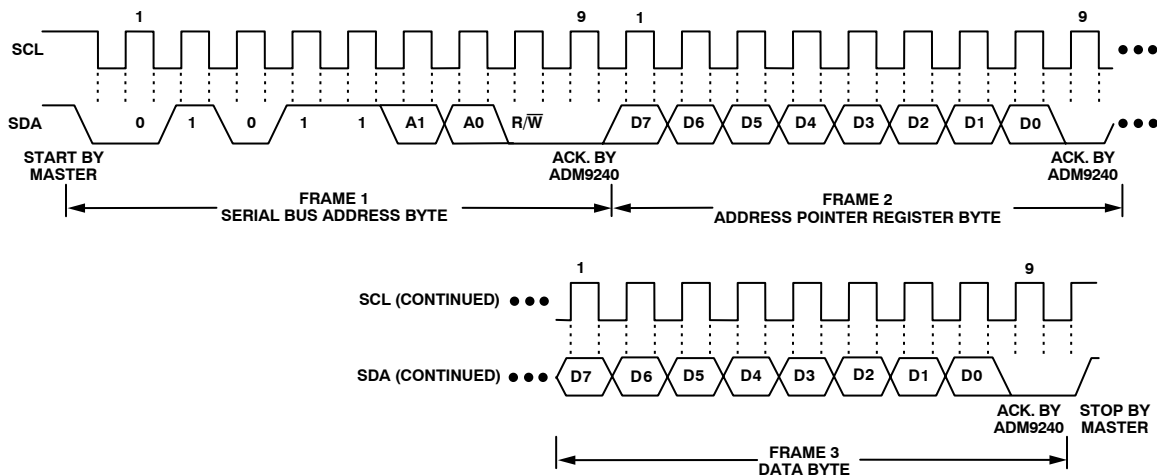

Figure 2a. Writing a Register Address to the Address Pointer Register, then Writing Data to the Selected Register
This is illustrated in Figure 2a. The device address is sent over the bus followed by R/\overline{W} set to 0. This is followed by two data bytes. The first data byte is the address of the internal data register to be written to, which is stored in the Address Pointer Register. The second data byte is the data to be written to the internal data register.
2. In Figures 2a to 2c, the serial bus address is shown as the default value 01011 (A1)(A0), where A1 and A0 are hardwired to either Logic 0 or Logic 1.